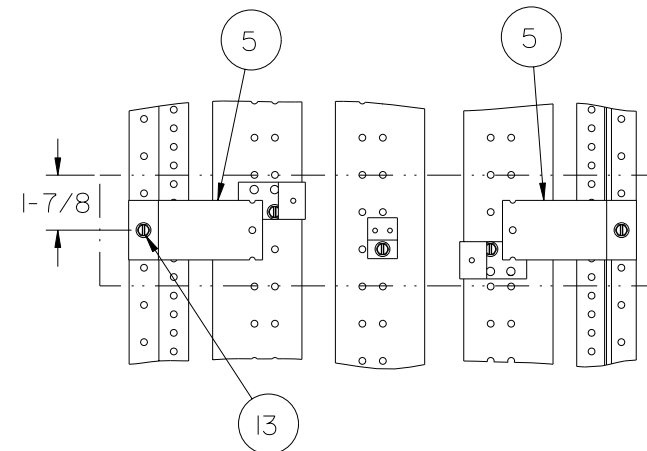

Figure 5
6. Reference fig. 5 - Attach the Barrier Supports. Locate a 0.228" diameter hole in the left Z-rail 1-7/8" below the top of the empty unit space selected. Insert a 1/4-20 X 3/8" screw (item 13) through the ∅0.312 hole in a Barrier Support (item 5) and into the selected hole in the Z-rail (orienting the Barrier Support as shown) and tighten. Repeat this step for the second Barrier Support. Torque all hardware as specified on the rear of the deadfront.